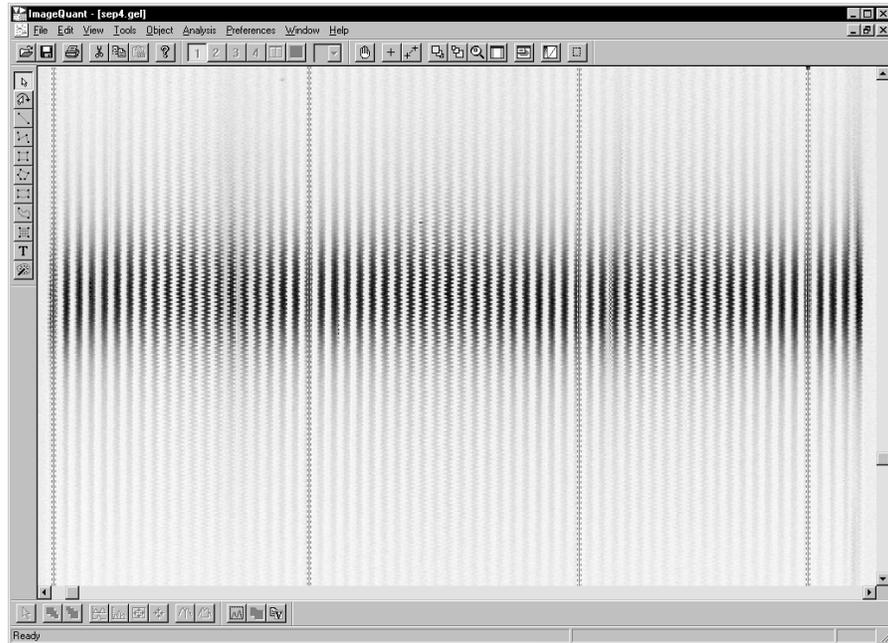

Figure 19-12. A converted image file displayed in ImageQuant.
4. On the **View** menu, click **Gray/Color Adjust** to enhance the appearance of the capillaries within the image file. Depending on the Gray/Color Adjust settings you used, the image should look similar to the image in figure 19-12.